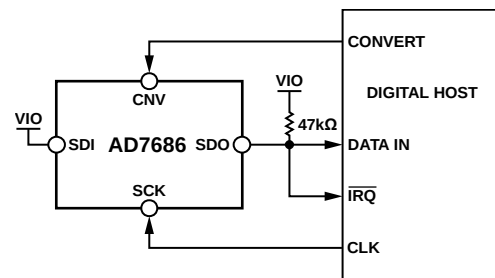
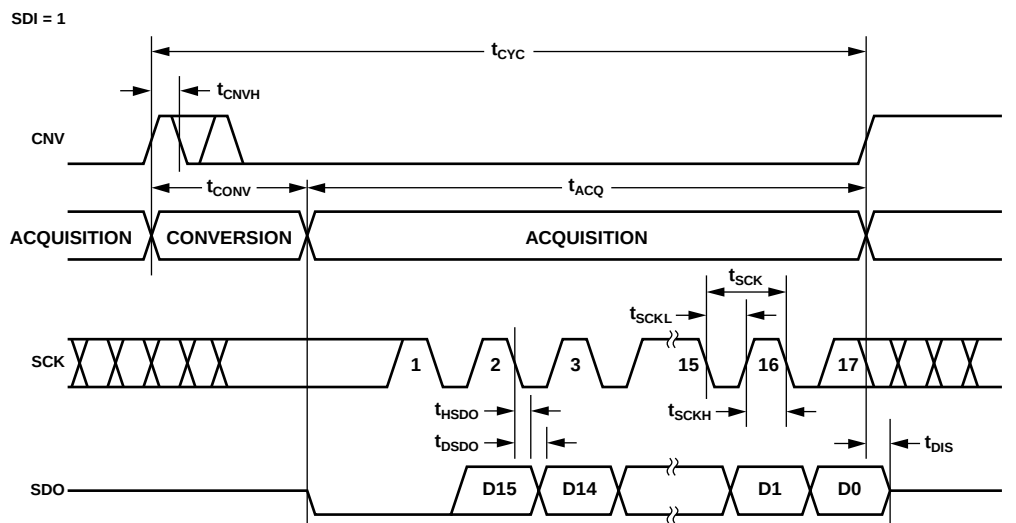
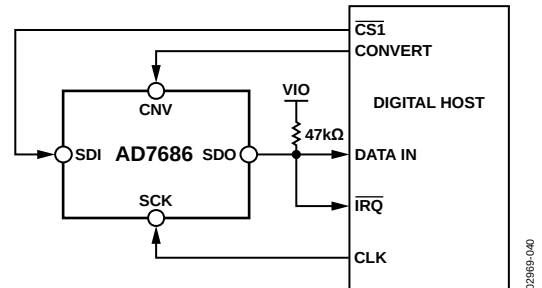
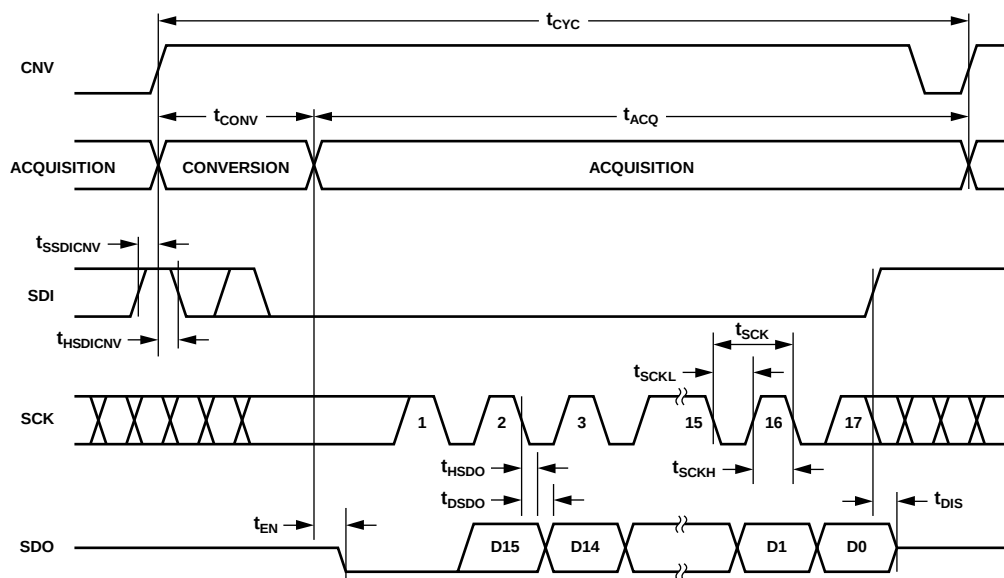

Figure 35. $\overline{\text{CS}}$ Mode 3-Wire with Busy Indicator Connection Diagram (SDI High)
Figure 36. $\overline{\text{CS}}$ Mode 3-Wire with Busy Indicator Serial Interface Timing (SDI High)
Figure 39. CS Mode 4-Wire with Busy Indicator Connection Diagram
Figure 40. CS Mode 4-Wire with Busy Indicator Serial Interface Timing
- In $\overline{CS}$ mode, if CNV or SDI is low when the ADC conversion ends (see Figure 36 and Figure 40).
This mode is generally used when a single AD7686 is connected to an SPI-compatible digital host having an interrupt input. The connection diagram is shown in Figure 35, and the corresponding timing is provided in Figure 36.
This mode is usually used when a single AD7686 is connected to an SPI-compatible digital host, which has an interrupt input, and when it is desired to keep CNV, which is used to sample the analog input, independent of the signal used to select the data reading. This requirement is particularly important in applications where low jitter on CNV is desired. The connection diagram is shown in Figure 39, and the corresponding timing is provided in Figure 40.